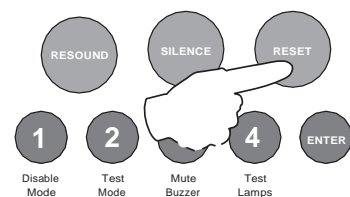

fig 3
5. When fully satisfied that there is no fire, return to the control panel and press the (green) RESET button, (fig 3). The panel display should return to normal and only the green SUPPLY HEALTHY LED should be lit on the control panel.